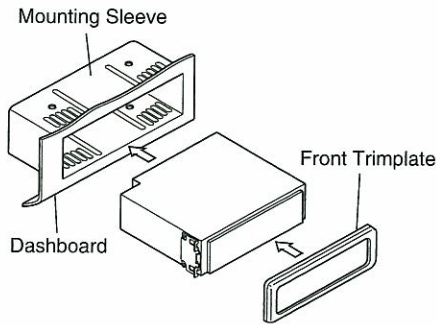

Fig. 2
2. Slide mounting sleeve from main unit. Slide the mounting sleeve into the dashboard. (Fig. 2)